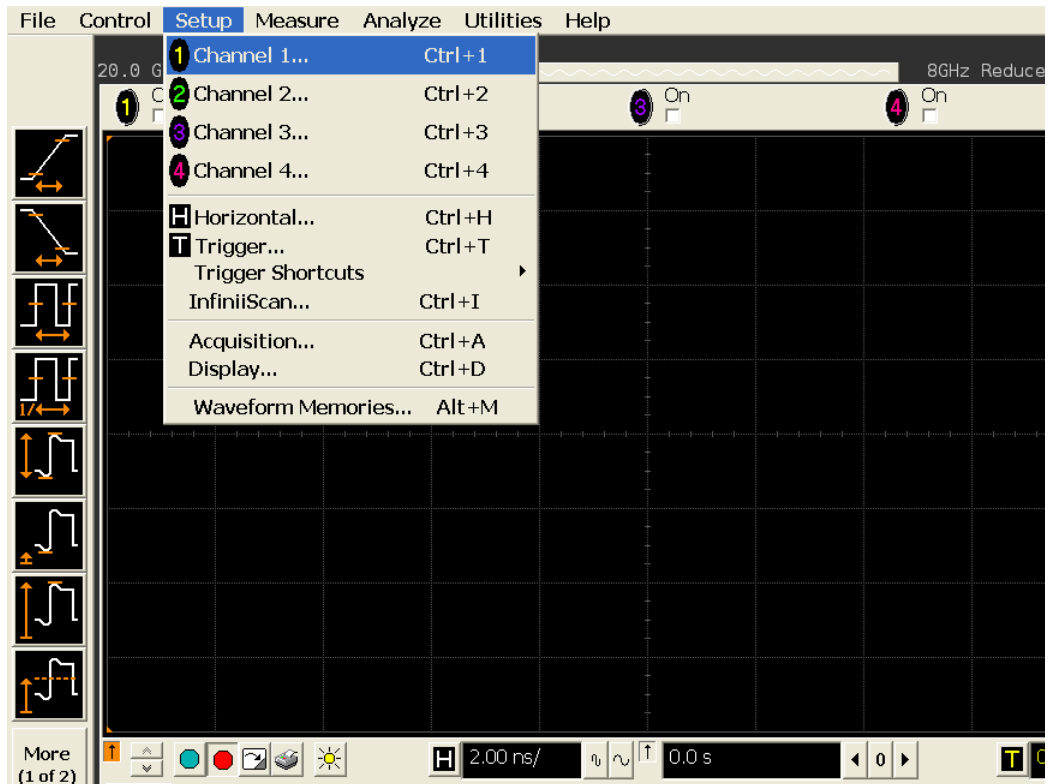

Figure 60 Channel Setup Window.
- 1 On the Infiniium oscilloscope in the Setup menu, select the channel connected to the probe, as shown in Figure 60.